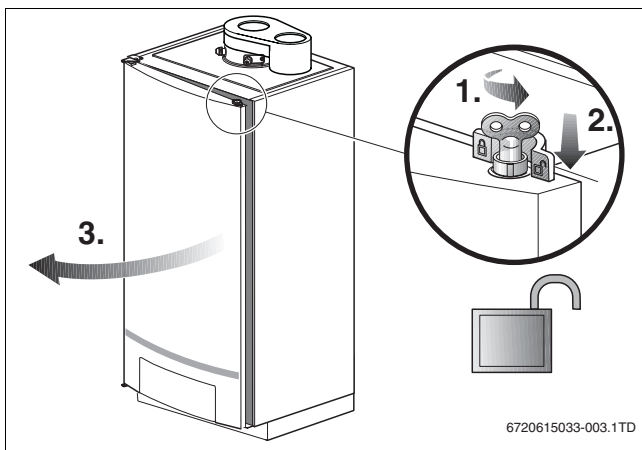

Fig. 2 Opening the boiler door
- ▶ Open the boiler door by turning the vent key through ¼ rotation (→ fig. 2, [1]).